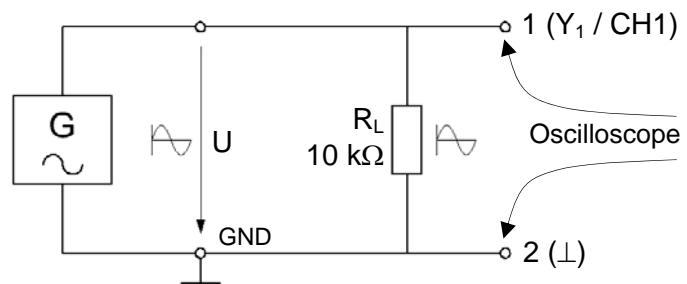

Fig. 10.2.2.1: Sine-wave generator with load resistor,  $R_L$
- Assemble the circuit in Fig. 10.2.2.1 on the Electronic Circuits Board (notes on assembly will be found in section 10.2.3).